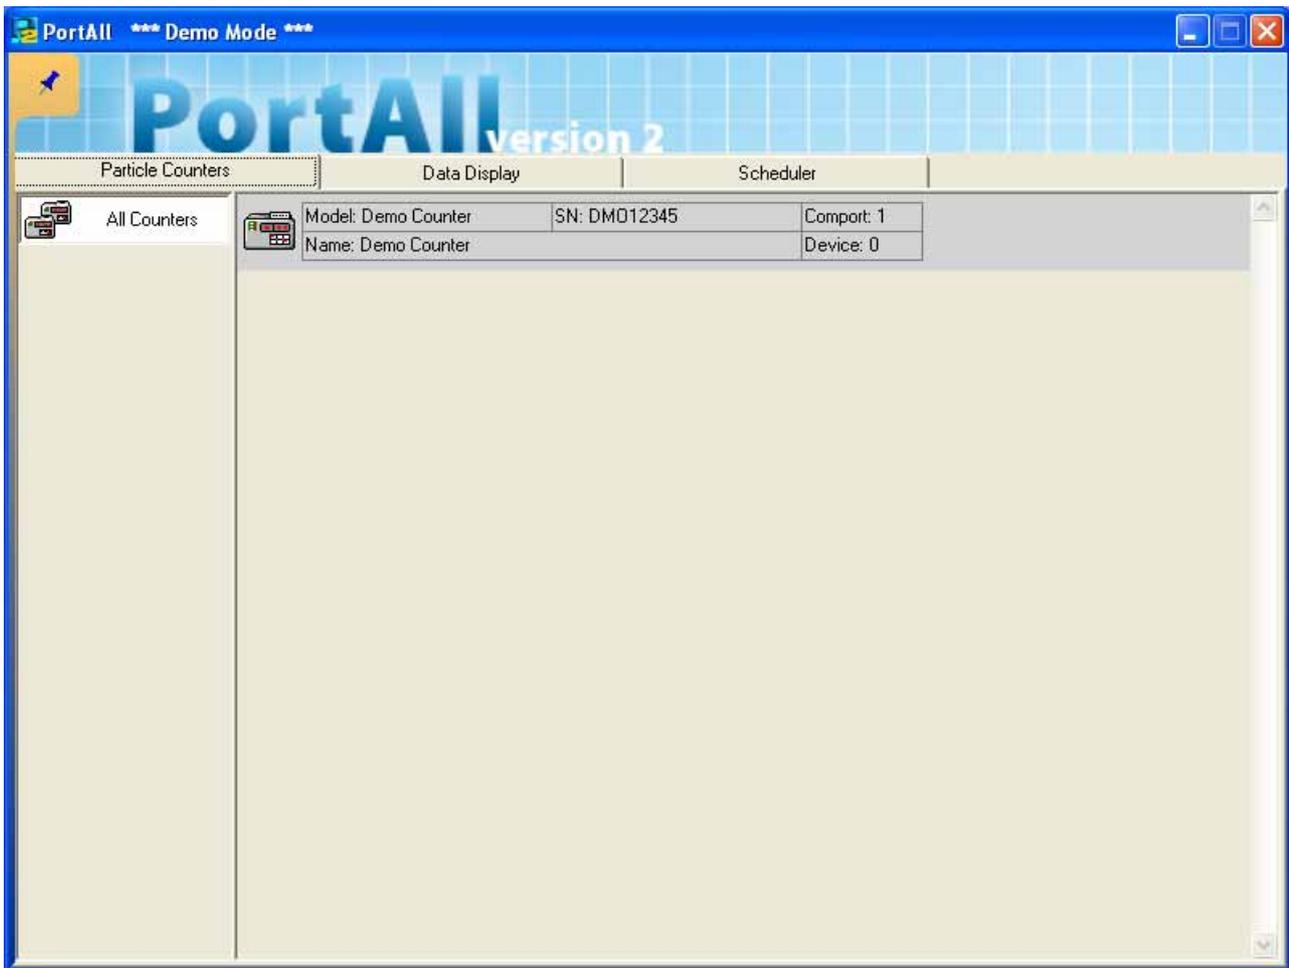

Figure 1 PortAll Window—Demo Mode
3. Click **LOGIN**. PortAll opens in demonstration mode (Figure 1).